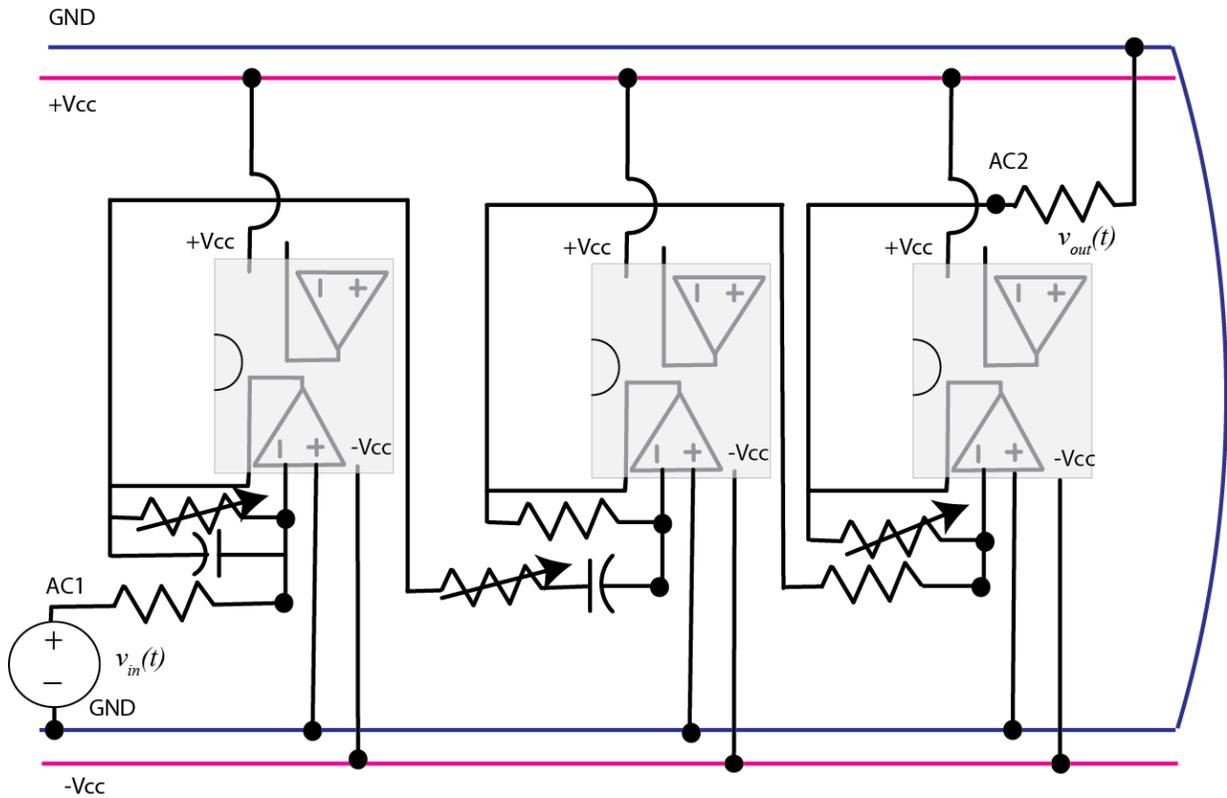

Figure 7. The bandpass system composed of lowpass, highpass, and all pass subsystems.
6) Connect all of the subsystems together as shown in Figure 7. Be sure to remove some of the load resistors we have been using.